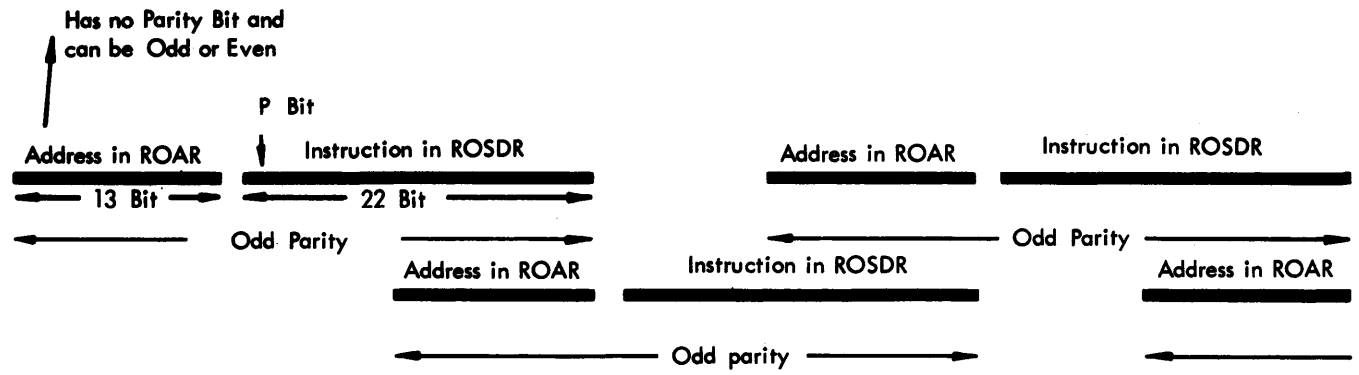

Figure 3-51 Principle of ROS Parity Checking
1. A Broken tape is detected when no bits are set into ROSDR pos. 1 through 5 when a micro-instruction is read out of the ROS.
- Figure 3-51 shows the principle of ROS parity checking.
F/S N sets the N part (ROSDR pos. 6 through 9) into STAR. STAR P bit FL is turned on if the N part is even. The "N Bits Even" signal activates the Bus bit P, N Bit Even and Bus bit P up during a F/S N turns on the STAR P bit FL. "N Even" signal is determined by the ROS check circuit (Figure 3-51).
When the bits of ROSDR positions 3 through 5 are set into AHR the P bit is set by the ROSDR 3 - 5 even signal which is detected by the ROS check circuit (Figure 3-51).
When the bits of ROSDR position 7 through 9 are set into AHR the P bit is set by the ROSDR 7 - 9 Even signal which is detected by the ROS check circuit (Figure 3-51).